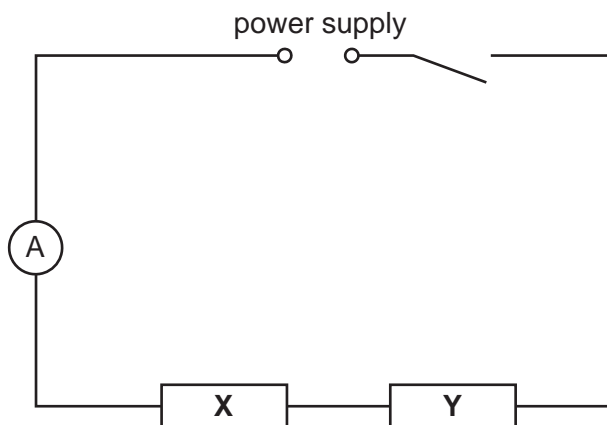

Fig. 2.1
- (iv) Sufficient connecting leads to set up the circuit shown in Fig. 2.1, with 4 spare leads.
2. The circuit is to be set up for candidates as shown in Fig. 2.1.
Connect the circuit as shown in Fig. 2.1 and check that the circuit is working.